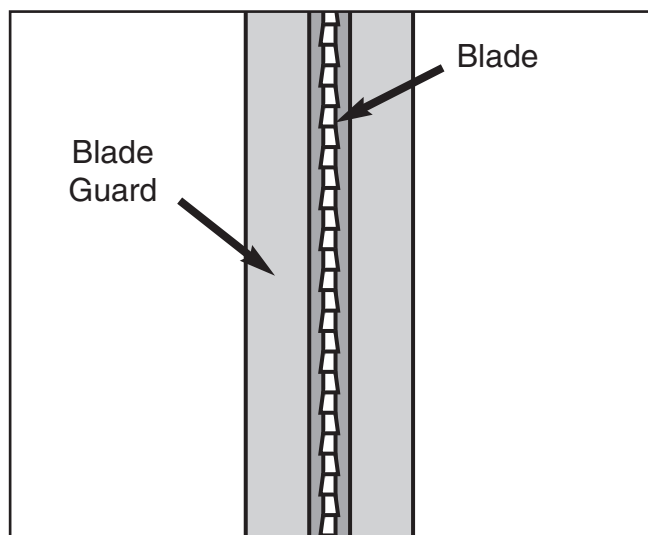

Figure 14. Blade centered in blade guard.
2. Rotate the blade guard bracket in the appropriate direction until the blade guard is centered around the blade as illustrated in **Figure 14**.